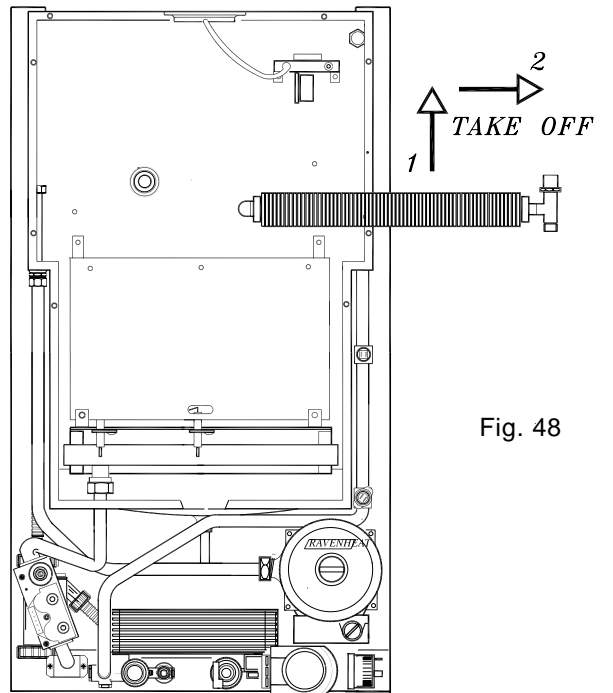

Fig. 48
- 7.8.10 Pull the heat exchanger up until its flow connections come out from the combustion chamber and then remove it (fig. 48).